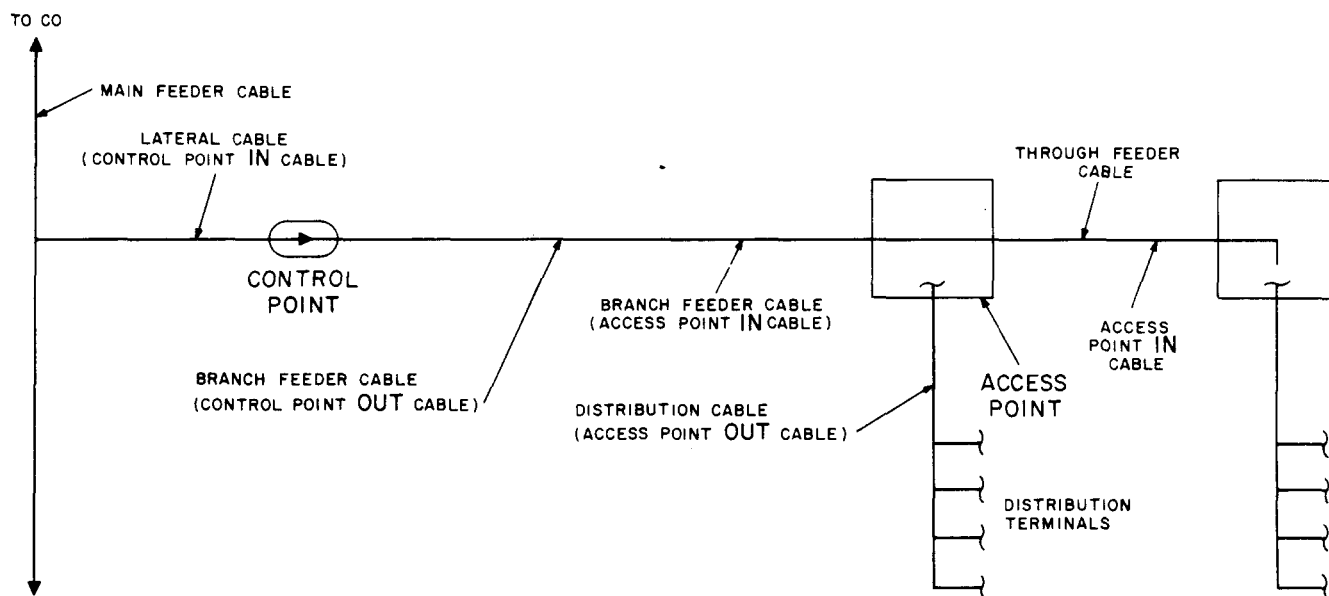

Fig. 1—Simplified Dedicated Plant Distribution System
**2.01** *Access Points* provide a means of connecting pairs in distribution cables to spare pairs in branch or main feeder cables. Cables entering access points from the central office or a preceding control point are termed *IN* or *EXPRESS* cables (Fig. 1). Cables leaving access points toward subscribers are termed *OUT* cables. Cables which originate in the access point assume the address of the access point, and the cable pair numbers assigned to the pairs in these cables begin at one (1) and continue up to the total number of pairs originating at this location. *EXPRESS* feeder cables leaving access points do not change designations.